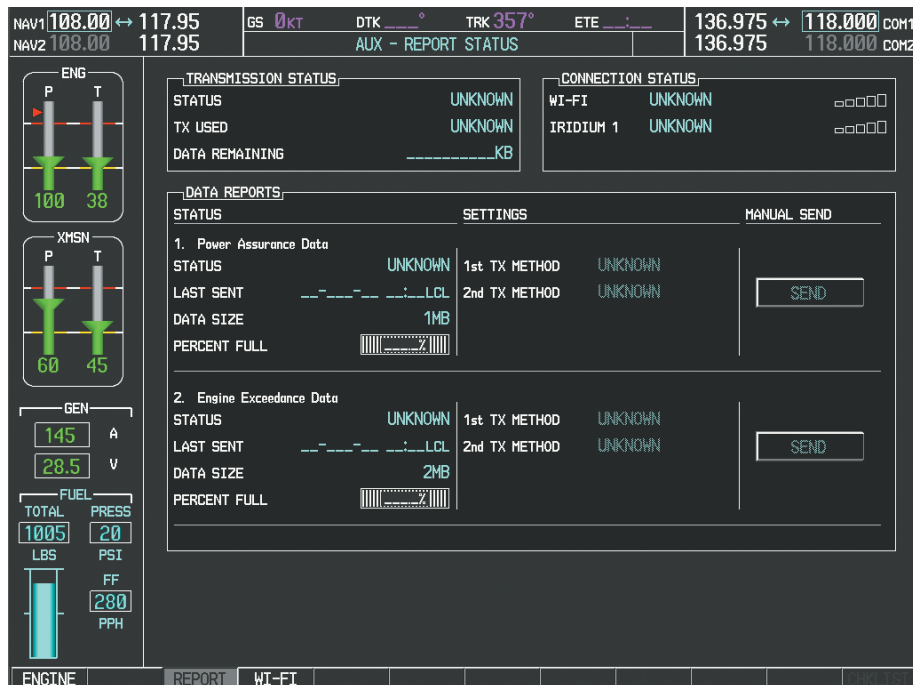

Figure 8-73 Report Status Page Selected Prior to System Registration
- 4) If necessary, select the **REPORTS** Softkey. The AUX-REPORT STATUS Page is now displayed as shown in Figure 8-73.